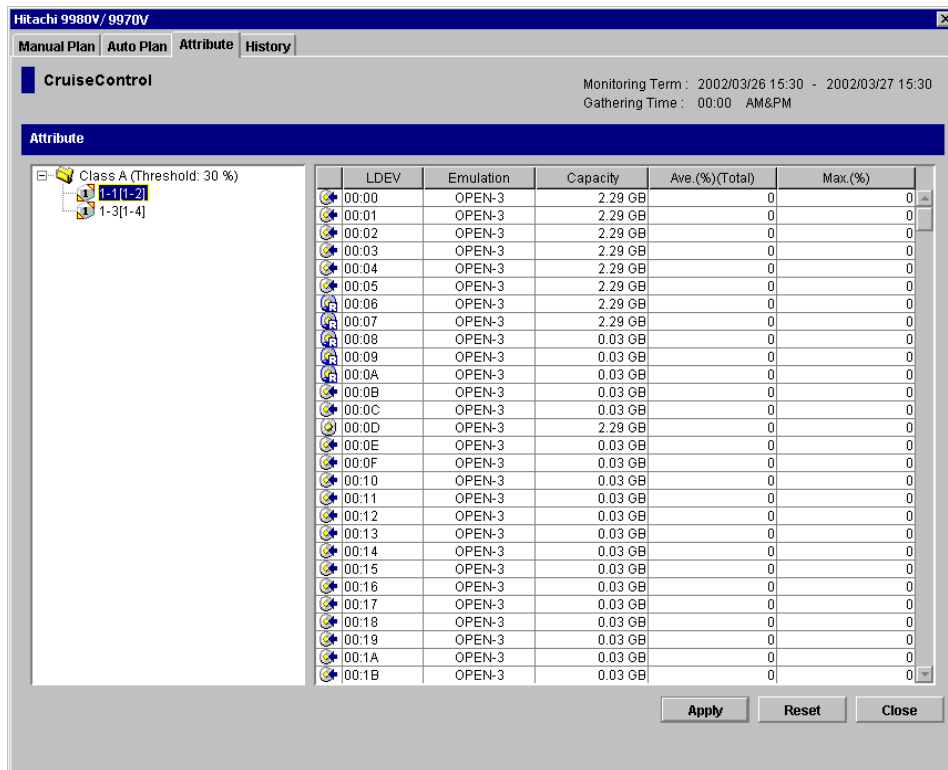

Figure 5.8 The Attribute Tab
2. From the Hitachi CruiseControl panel, click the **Attribute** tab (see Figure 5.8).
2. From the Hitachi CruiseControl panel, click the **Attribute** tab (refer to Figure 5.8).